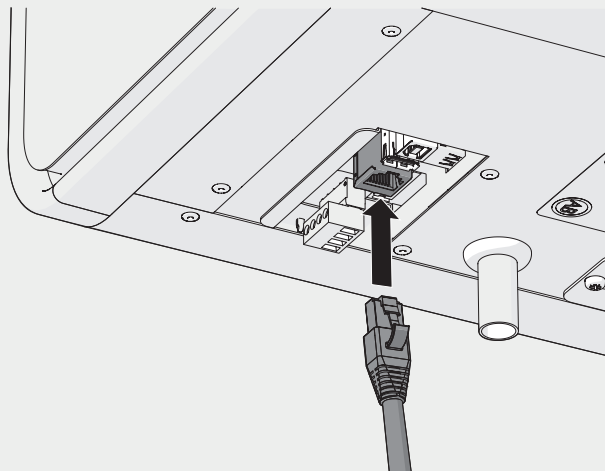

Figure 14 Connecting the UTP cable to the GreenComfort.
1. Connect the UTP cable to the UTP connector on the bottom of the GreenComfort (figure 14).